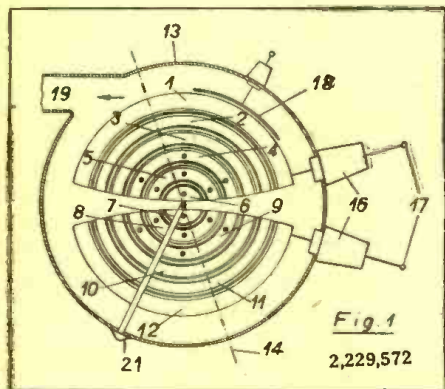

Fig. 1
• A SHORT-WAVE non-directive antenna design having a wide frequency band characteristic, radiating a horizontally polarized wave substantially uniformly in the horizontal plane. Fig. 1A shows typical radiation pattern radiated in a horizontal plane from the antenna shown in Fig. 1. Figs. 2 and 3 show other forms of antenna design according to the patent and Fig. 4 shows a type of antenna array suitable for obtaining a concentration of energy in the vertical plane. The design at Fig. 1 shows an antenna system having two conductive radiating structures 1 and 2, which take the form of conical surfaces. Each cone has a length about .36 wavelength long at the mid-band frequency and may consist of a
metallic sheet, or else a plurality of wires regularly distributed around and lying in the conical surface. The system shown in Fig. 1, the author states, yields a circular radiation pattern like that shown in Fig. 1A.